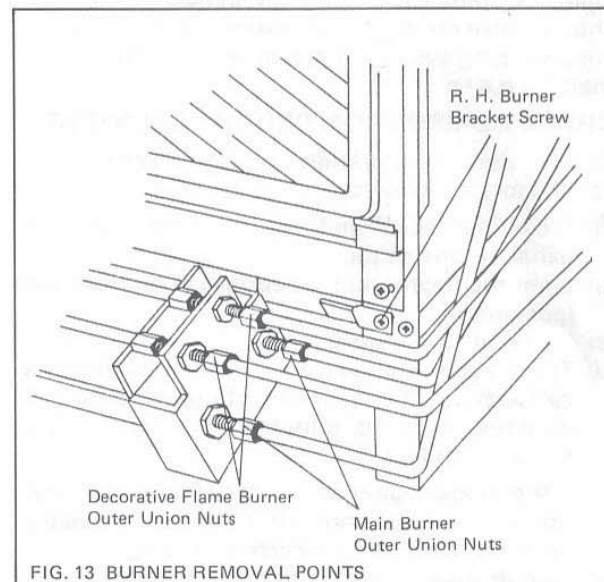

FIG. 13 BURNER REMOVAL POINTS
- (d) Disconnect the 4 outer union nuts connecting the piping to the main and decorative flame burners. (See fig 13)
- (e) Remove the RH burner bracket screw (see fig 13)